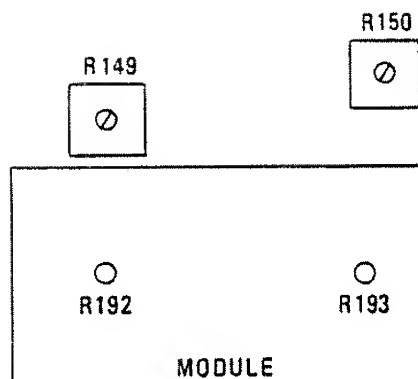

Fig 6.5 Location of R150 and R193
- 32 First, set resistors R150 fully counterclockwise and R193 to its midposition. R193 is located inside the screened module (access holes provided) as shown in Fig 6.5.